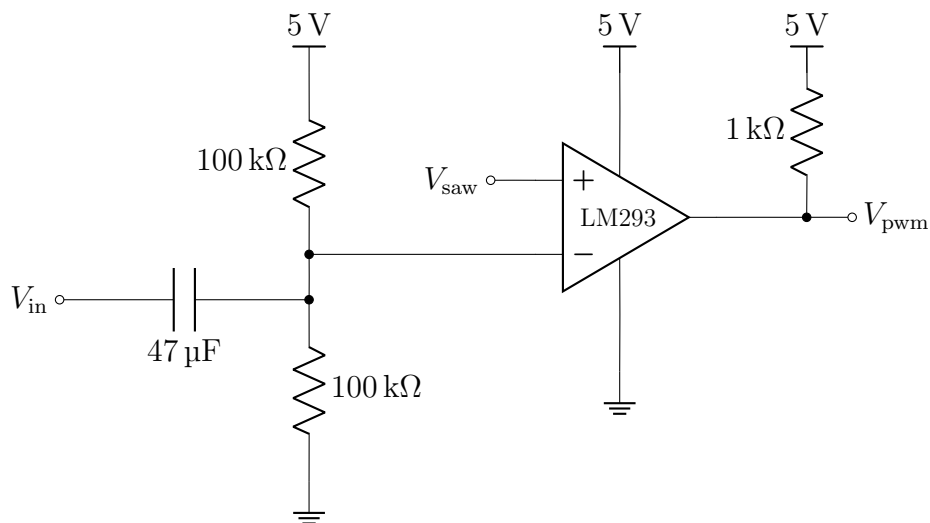
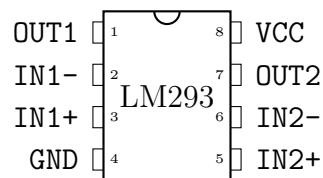

Figure 10.5: Circuit For PWM Encoder.
Figure 10.6: LM293 Pinout
Now that you've completed a simulation of a PWM encoder, we will proceed to build the real thing by breadboarding a comparator circuit, that takes V_{in} and V_{saw} as inputs and produces the PWM signal V_{pwm} . Your PC's headphone port will provide the message signal (V_{in}), the DAD will provide the sawtooth function (V_{saw}) and oscilloscope, and the CyDAQ will provide the filter for decoding the PWM signal V_{pwm} . Use the components in your Lab Kit, along with the LM293 op-amp provided in the lab to construct the circuit in Fig. 10.5. **You must use the LM293 op-amp**, other op-amps in your Lab Kit *cannot* be used as substitutes. The pinout for the LM293 op-amp is given in Fig. 10.6.
Once you have built the circuit depicted in Fig. 10.5 you will need to connect it to your PC headphone port, the CyDAQ's V_{in} and V_{out} ports, as well as the DAD's WaveGen and Scope. You will need to make the following connections:
- Connect the **PC Headphone Right Channel (Red Breakout Wire)** to the **PWM Circuit's V_{in}** (see Fig. 10.5).
- Connect the **DAD's Waveform Generator 1 (W1)** to the **PWM Circuit's V_{saw}** (see Fig. 10.5).
- Connect the **PWM Circuit's V_{pwm}** (see Fig. 10.5) to the **CyDAQ's V_{in} Positive Terminal (V_{in+})**.